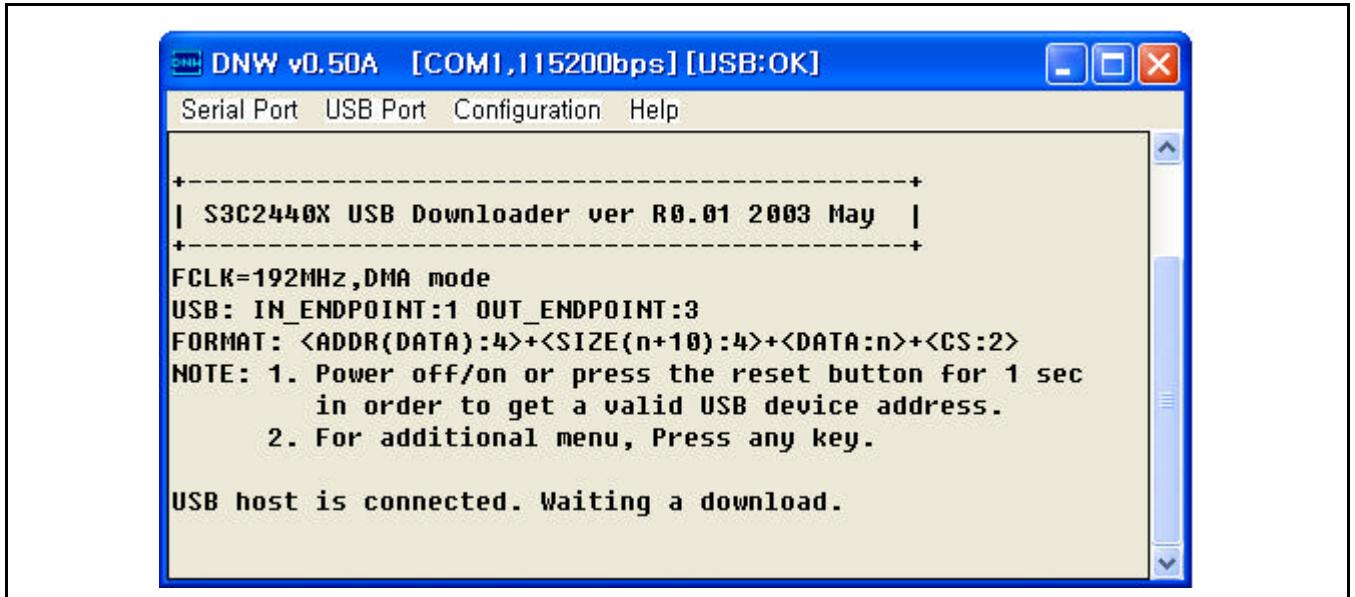

Figure 3-4. DNW Window (after Turning on the SMDK2440)
3. Connect the serial and USB cable from the host PC to SMDK2440 system and turn on the power of SMDK2440 board (See Figure 3-4).